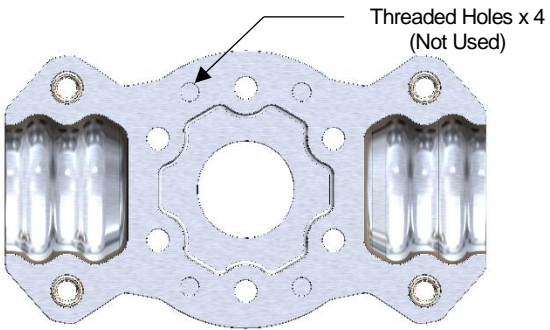

Figure 1: Hub Mount
1. Take note of rotation direction of your propeller blades. Blade models begin with "R" for right hand rotation or "L" for left hand rotation. Each blade has a round side and a flat side. Insert one blade at a time into the hub mounting half with the round side of the blade facing the mount half. Refer to **Figures 1 - 4** for views of the hub halves, blade, and spacer plate.